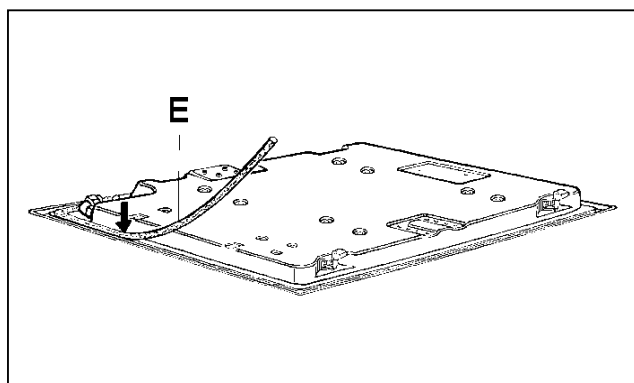

FIG. 9
- Overturn the cooktop and correctly position seal "E" (fig. 9) under the edge of the cooktop itself, so that the outer side of the seal perfectly matches the outer perimetral edge of the cooktop. The ends of the strips must fit together without overlapping.